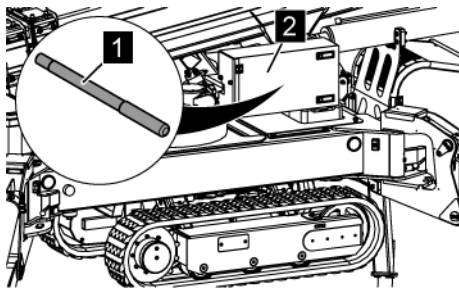

Fig. 140: Removing the hand pump lever
4. → Remove the hand pump lever (Fig. 140/1) from the hydraulic control box (Fig. 140/2).